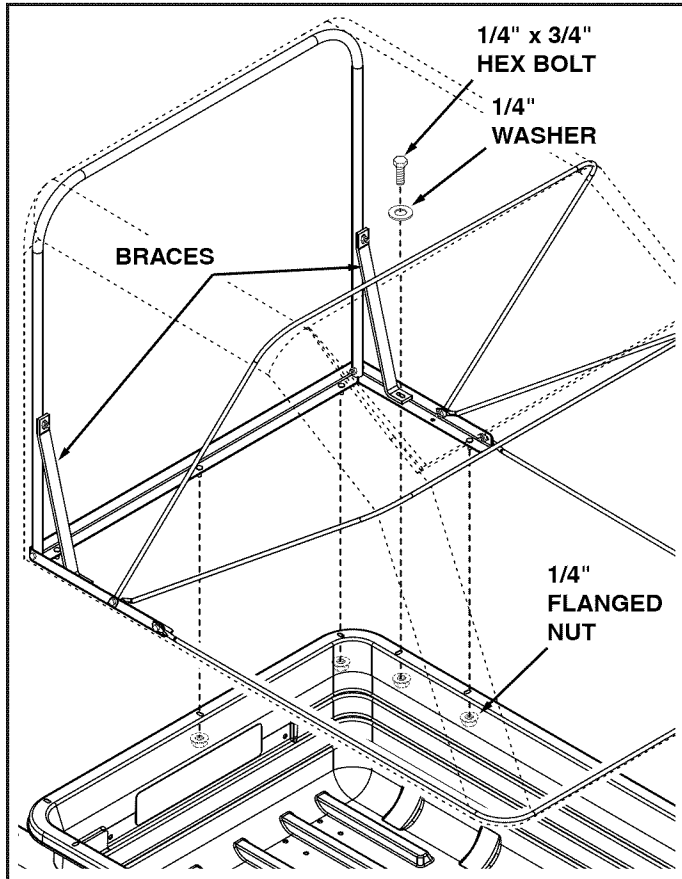

FIGURE 22
- Place the assembled cart cover on top of the cart, fitting the welded bolts in the top support angle down into the holes in the cart. Assemble five 1/4" flanged nuts onto the welded bolts. **DO NOT TIGHTEN YET.** See figure 22.
- Attach the braces to the top support angle and cart using two 1/4" x 3/4" hex bolts, 1/4" washers and 1/4" flanged nuts. **TIGHTEN.** See figure 22.